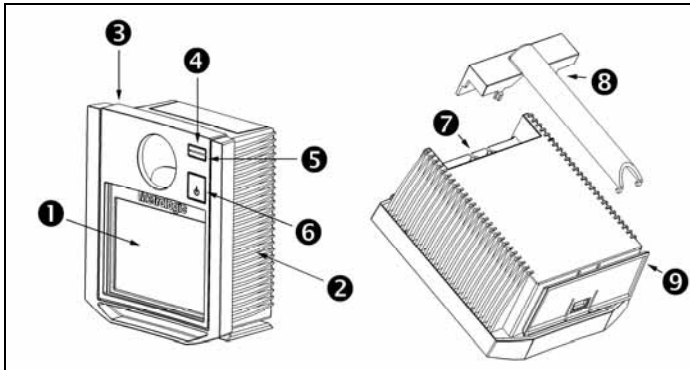

**Figure 7:** Connector Orientation (Top)
2. Connect the round end of the *PowerLink RS232 AUX* cable [ MLPN 54-54667 ] to the RS232 jack of the auxiliary scanner (see figure 7).